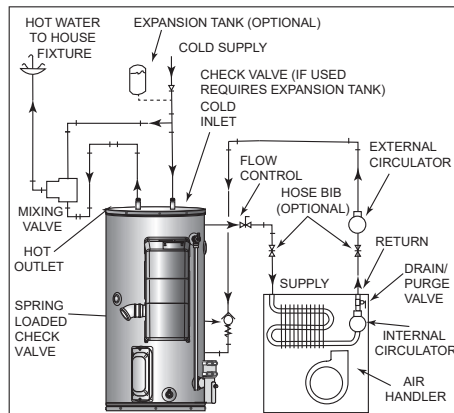
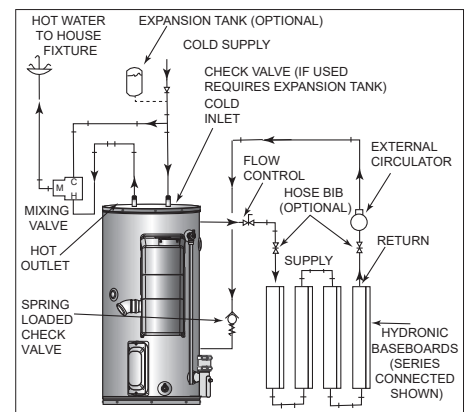

Figure 50. Typical Combo Heating Configuration
Figure 51. Typical Combo Heating with Hydronic Baseboards
point-of-use, must be installed to temper the water in order to reduce scald hazard potential. See **Figure 50** and **Figure 51**.
- A. A fan coil/air handler. See **Figure 50** (page 39).
- B. A hydronic baseboard (finned tube) loop/In floor heating. See **Figure 50** (page 39).